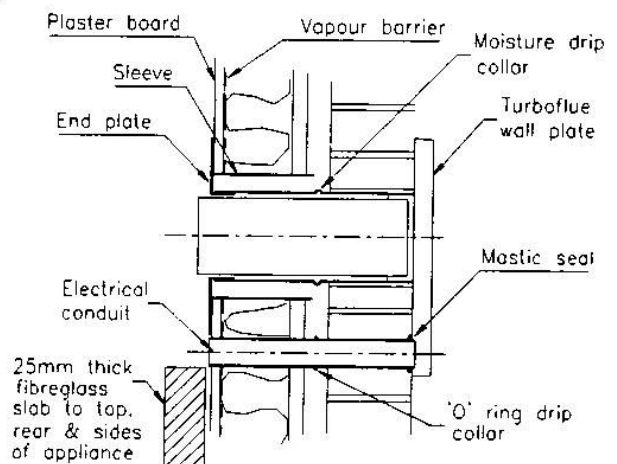

Fig. 6 Timber framed cutout
9. Push the endplate into position. (See Fig. 6)
19. Place the fire on the non-combustible base and slide the gather spigot into the connecting duct. Fix the fire to the base using the screws provided. Secure the connecting duct to the gather with the hex. set screw, ensuring that the gasket is compressed (Fig. 6).